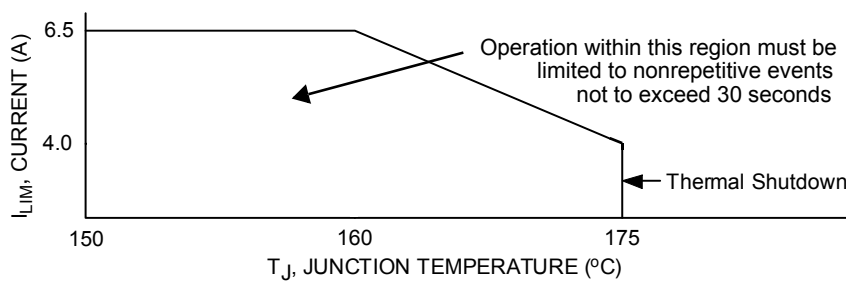
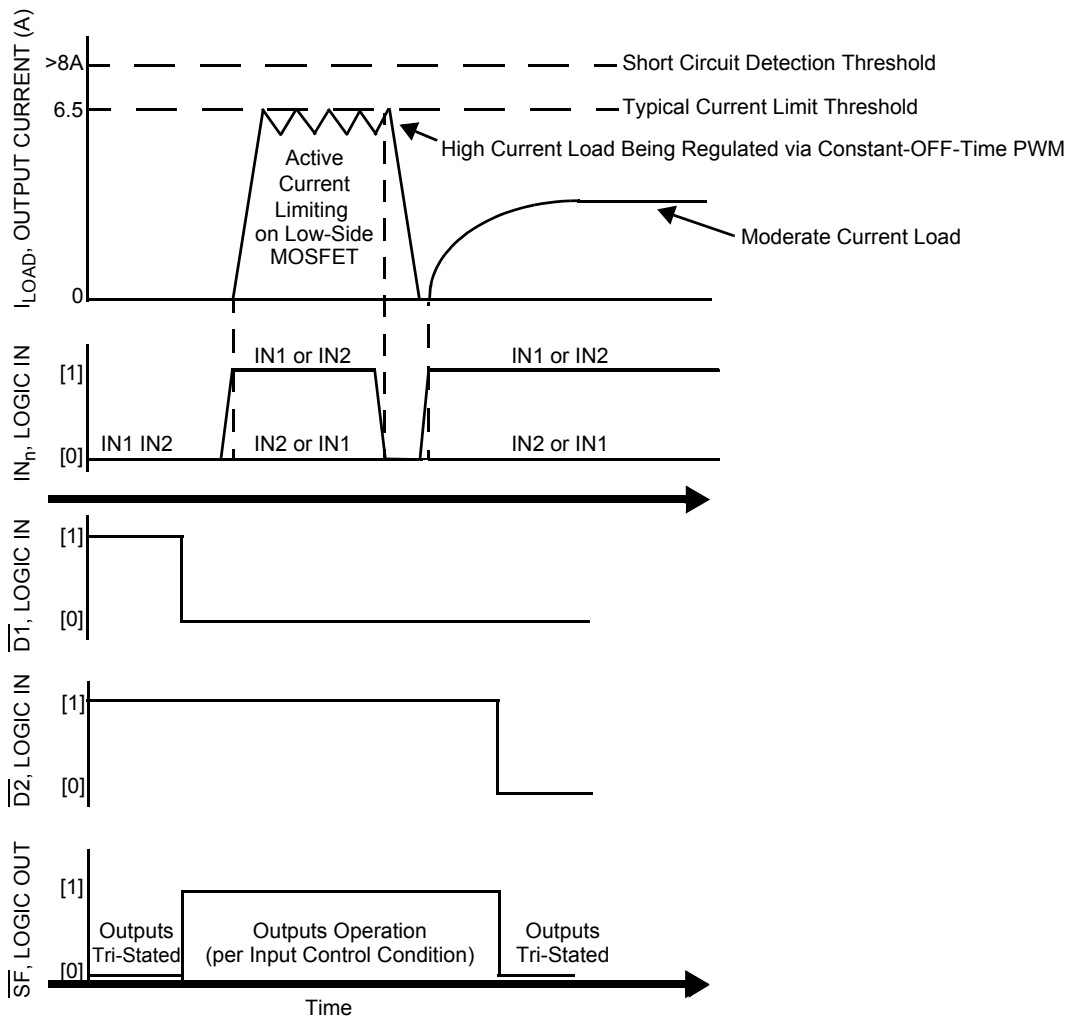

Figure 9. Active Current Limiting Versus Temperature (Typical)
Figure 10. Operating States
- 28 Load currents ramping up to the current regulation threshold become limited at the I_{LIM} value. The short circuit currents possess a di/dt that ramps up to the I_{SCH} or I_{SCL} threshold during the I_{LIM} blanking time, registering as a short circuit event detection and causing the shutdown circuitry to force the output into an immediate tri-state latch-OFF. See Figures 10 and 11, page 13. Operation in Current Limit mode may cause junction temperatures to rise. Junction temperatures above $\sim 160^\circ\text{C}$ will cause the output current limit threshold to progressively “fold back”, or decrease with temperature, until $\sim 175^\circ\text{C}$ is reached, after which the T_{LIM} thermal latch-OFF will occur. Permissible operation within this fold-back region is limited to nonrepetitive transient events of duration not to exceed 30 seconds. See Figure 9, page 12.
and overtemperature shutdown occurs (see Figure 9, page 12). This feature allows the device to remain operational for a longer time but at a regressing output performance level at junction temperatures above 160°C .